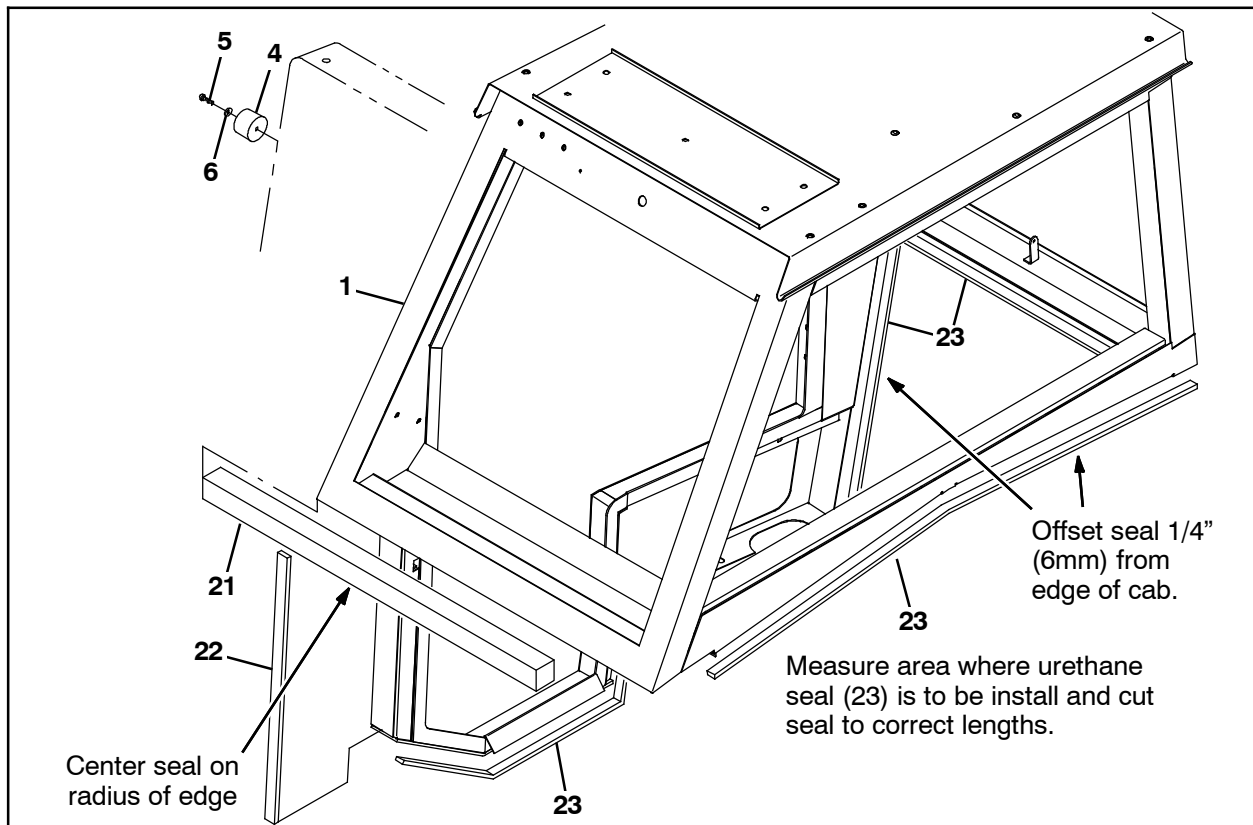

FIG. 3
9. Use isopropyl alcohol to clean areas where the urethane seals (21), (22), and (23) will be installed. (Fig. 3)
10. Measure the areas on the cab where the urethane seals (22) and (23) will be installed. (Fig. 3)
11. Cut the urethane seals (22) and (23) to the appropriate lengths from the measurements taken in the previous step. (Fig. 3)
12. Install the urethane seals (21), (22), and (23) onto the cab (1). (Fig. 3)
13. Use a hoist or crane to lift the cab (1) onto the machine and use four socket screws (7) and four washers (8) to secure the cab onto the machine.